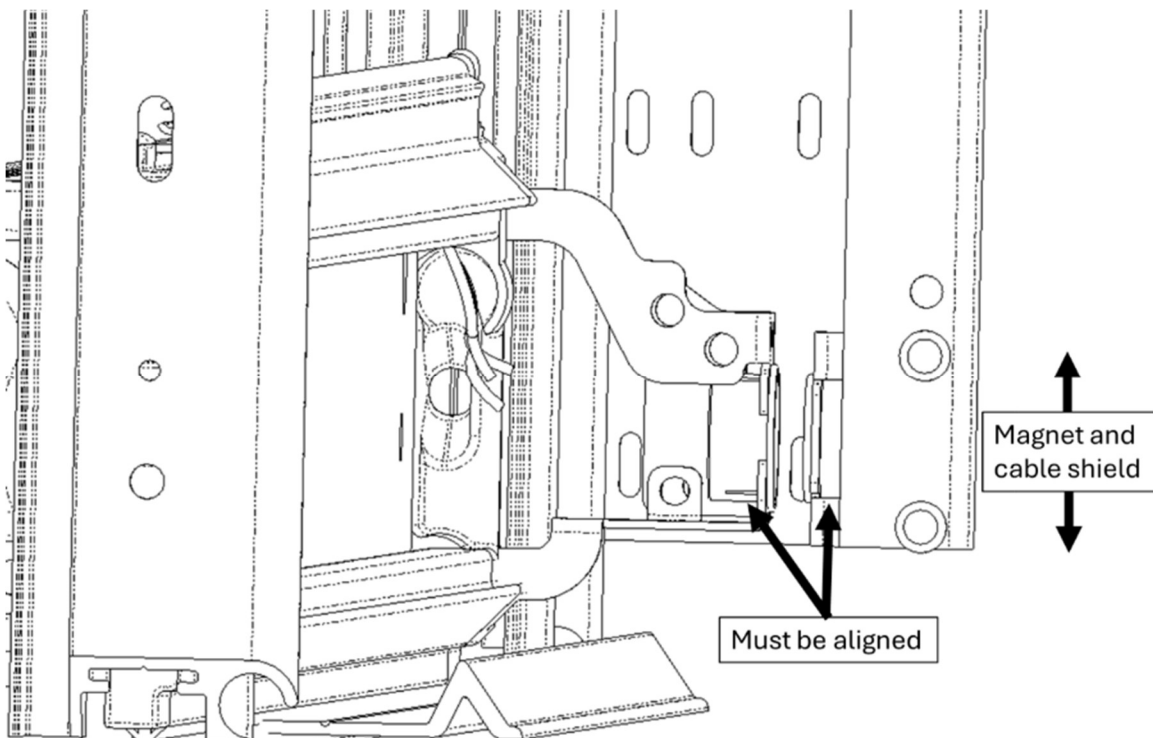

Figure 38. Ensure the sensor and magnet are aligned
8. Alignment of the lit handlebar sensor to the magnet on the cable shield can be adjusted slightly if needed, by sliding the cable shield up or down. Refer to Figure 38.